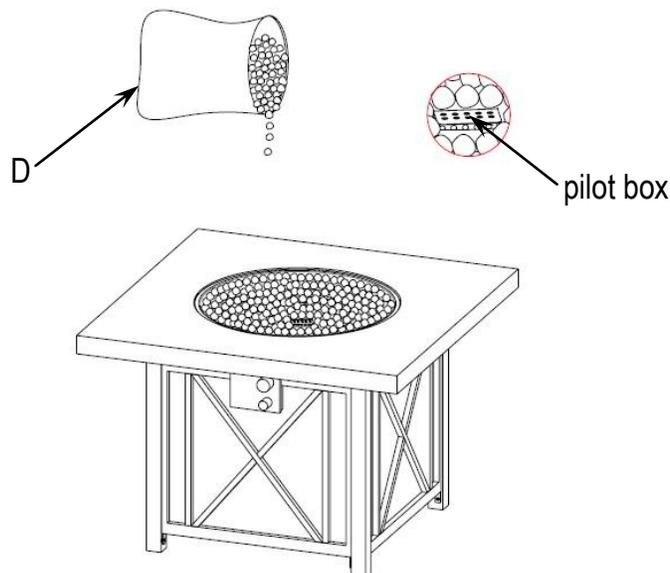

Figure 9
- Put the Lava Rock (P) around the burner, then remove the label from the pilot box (see Figure 9). A gas fire pit requires 16.5 lbs lava rock.